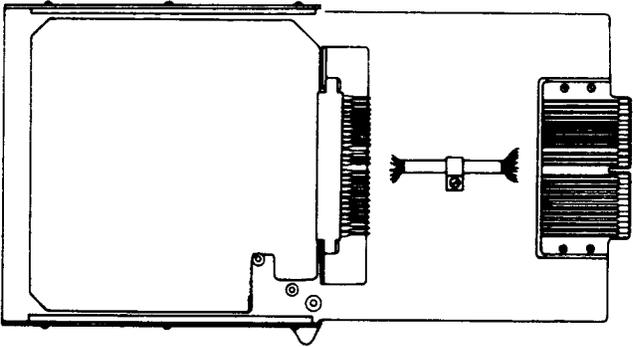

Fig. 2—17A Extender
2.06 **17A:** The 17A extender (Fig. 2) was developed for use with miniature wire spring relay trunk circuits in No. 4A ESS switching equipment to provide access to the circuit boards. This extender will plug into any position of any housing on the frame. This extender is used on J61561 BD, BE, BF, BH, and BJ No. 4A ESS switching equipment trunk units.